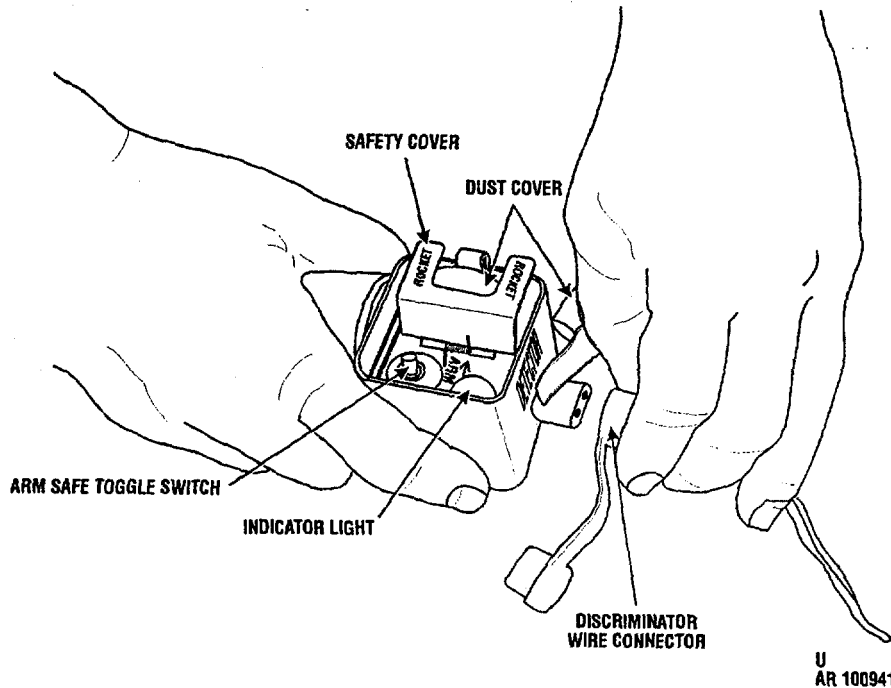

Figure 2-63. Connecting discriminator to firing device.
- (1) Lay out attached discriminator wire loosely at side of road near discriminator to obtain connector for attachment to firing device.
- (2) Assure ARM-SAFE toggle switch is in safe position. Remove dust cover from firing device connector labeled DETECTOR and connect to discriminator wire (fig. 2-63).
- (22) If light is lit, check and straighten any kinks or twists in discriminator that could cause enough pressure to complete electrical circuitry.
- (23) If light continues to glow, do not use system.
- (24) If light goes out, proceed with next step.
- (25) Recheck camouflaged discriminator, disguising any exposed section.
- (26) Remove dust cap from rocket cable assembly connector; lift up safety cover and remove dust cap on firing device connector labeled ROCKET; and join connectors (fig. 2-63).
- (27) Throw toggle switch to ARM position.